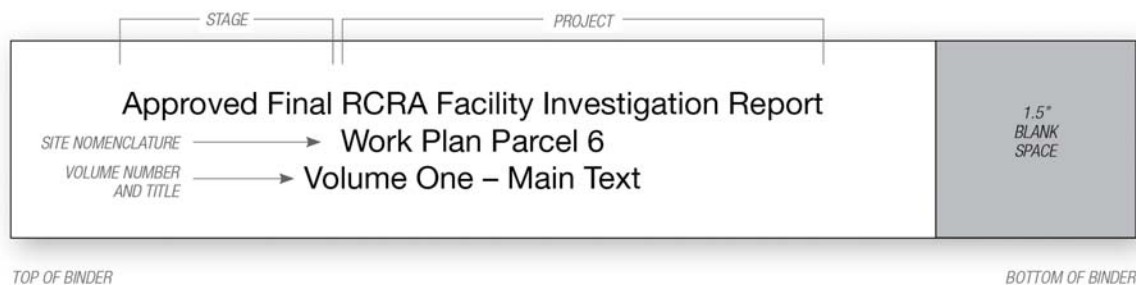

Figure J-1. Binder Spine Label Example – Horizontal
5. The placement of the Spine Label must appear as shown in Figures J-1 and J-2.